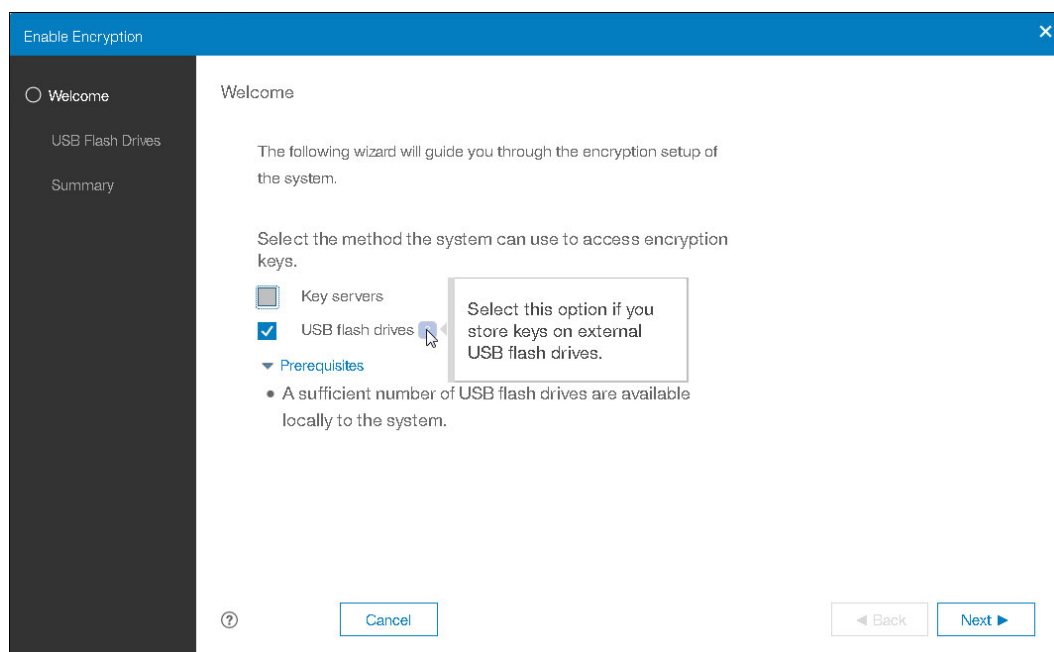

Figure 7-34 Enable Encryption wizard Welcome page
The Enable Encryption wizard opens to the Welcome page (see Figure 7-34).
4. As shown in Figure 7-34, encryption is set up by using USB flash drives. Click **Next** to continue with Enable Encryption wizard.